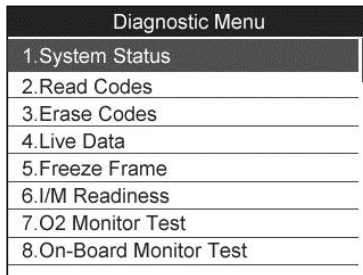

Figure 5.3
- 7) View a summary of **System Status** (MIL status, DTC counts, and Monitor status) onscreen. (Figure 5.1) Press the **ESC** button and the **Diagnostic Menu** (Figure 5.3) will come up.
- 1) Use the **UP/DOWN** scroll button to select **Read Codes** from **Diagnostic Menu** and press the **OK** button. (Figure 5.3)
- 1) Use the **UP/DOWN** scroll buttons to select **Erase Codes** from **Diagnostics Menu** and press the **OK** button. (Figure 5.3)
- 1) To view live data, use the **UP/DOWN** scroll button to select **Live Data** from **Diagnostic Menu** and press the **OK** button. (Figure 5.3)